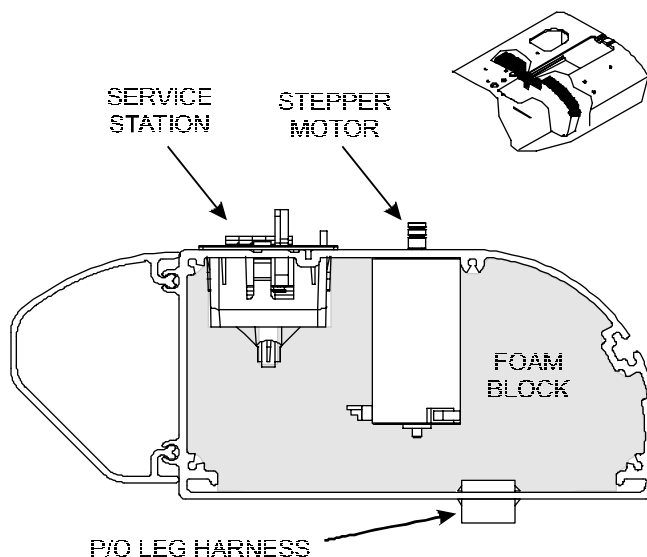

Figure 5-26. Inside Platen, Right Side.
9. Reinsert the Foam Block. Make sure that the Stepper Motor and Fan(s) cables are exiting out of the back corner of the Foam Block. See Figure 5-26. The Foam Block is positioned between the Stepper Motor and the Servo Motor. Make sure it is not tilted at an angle.